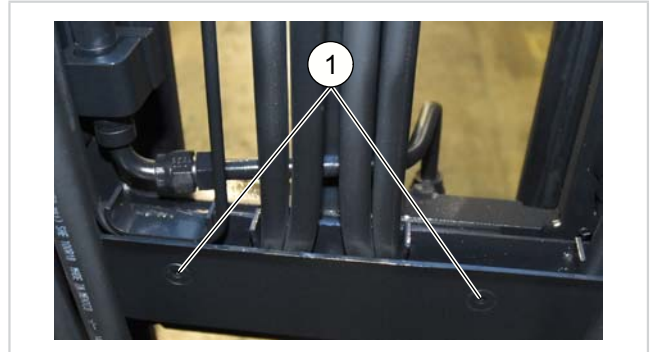

Fig. 138 (35095)
- See Figure 138. Remove the screws (1) from the accessory guide to free the hydraulic hoses.